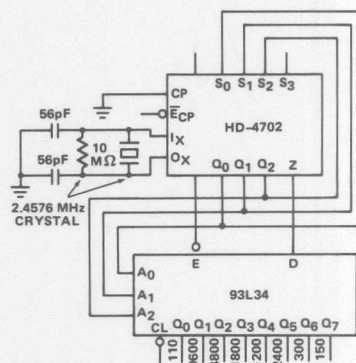

FIGURE 2
Figure 2 shows a simple scheme that generates eight bit rates on eight output lines, using one HD-4702 and one 93L34 Bit Addressable Latch. This and the following applications take advantage of the built-in scan counter (prescaler) outputs. As shown in the block diagram, these outputs (Q₀ to Q₂) go through a complete sequence of eight states for every half-period of the highest output frequency (9600 Baud). Feeding these Scan Counter Outputs back to the Select Inputs of the multiplexer causes the HD-4702 to interrogate sequentially the state of
eight different frequency signals. The 93L34 8 Bit Addressable Latch, addressed by the same Scan Counter Outputs, re-converts the multiplexed single Output (Z) of the HD-4702 into eight parallel output frequency signals. In the simple scheme of Figure 2, input S₃ is left open (HIGH) and the following bit rates are generated: